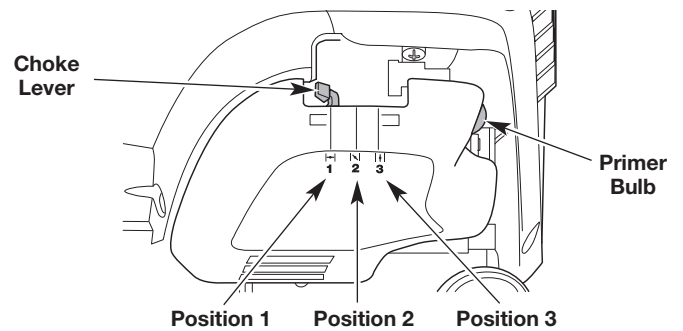

Fig. 9
3. Slowly press and release the primer bulb **10 times** (Fig. 9).
4. Move the choke lever to **Position 1** (Fig. 9).
7. Continue to squeeze the throttle control. Move the choke lever to **Position 2** (Fig. 9).
10. Continue to squeeze the throttle control. Move the choke lever to **Position 3** (Fig. 9) and continue warming the engine for an additional 60 seconds. The unit may be used during this time.